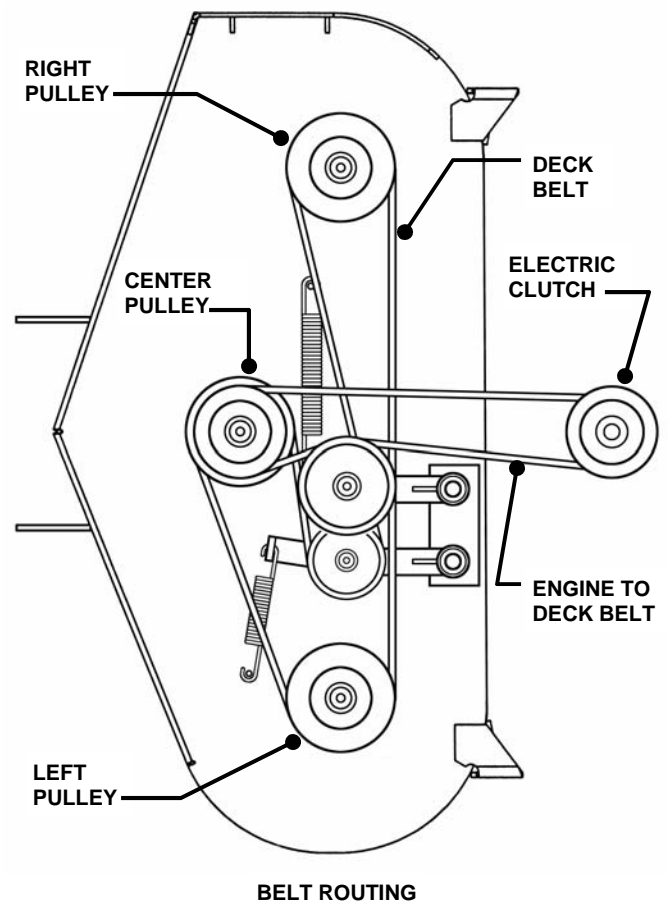

FIGURE 5.13
2. Route deck belt around blade pulleys and idler pulley in the same position as old belt was removed. See Figure 5.13.